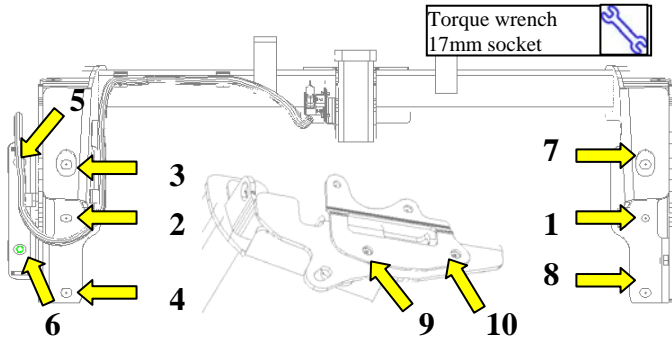

Fig. 6-1
- (a) Tighten bolts/nut in order shown to 80 N-M (60 FT-LB). (Fig 6-1)